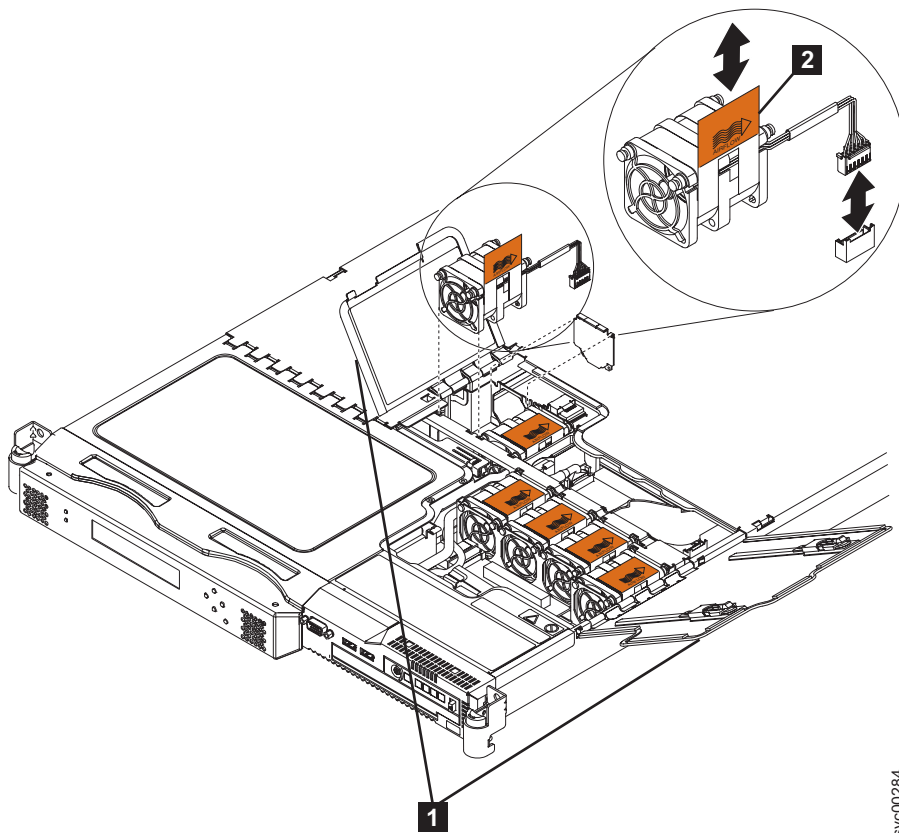

Figure 249. SAN Volume Controller 2145-8G4 fan doors, locations, and connectors
1. Orient the new fan in the same position as the fan that you removed. Make sure that the airflow indicator on the orange tab, (**2** in Figure 249) is pointing to the rear of the node.